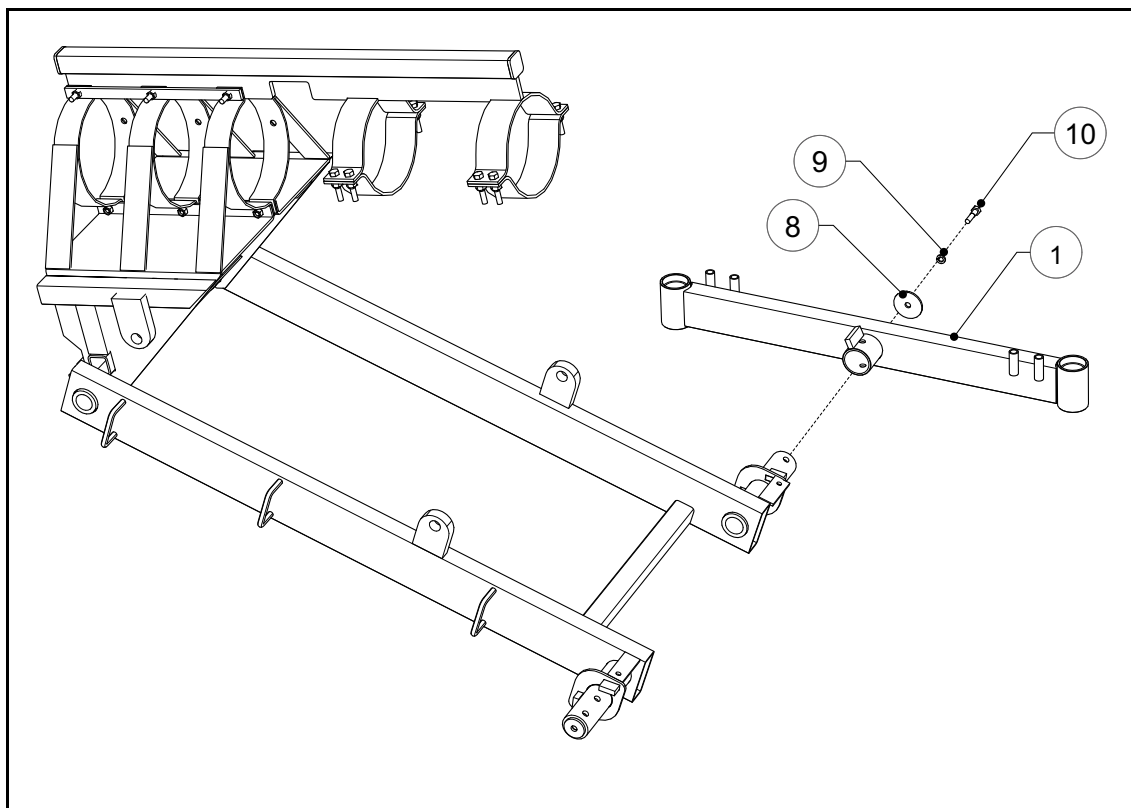

Figure 3.5 Attaching Walking Beam to the Cam-Lift
1. Attach the walking beam (1) to the cam-lift assembly in the orientation shown in Figure 3.5. Secure with a 1/2" x 2" bolt (10), 1/2" lock washer (9), and axle end cap (8).